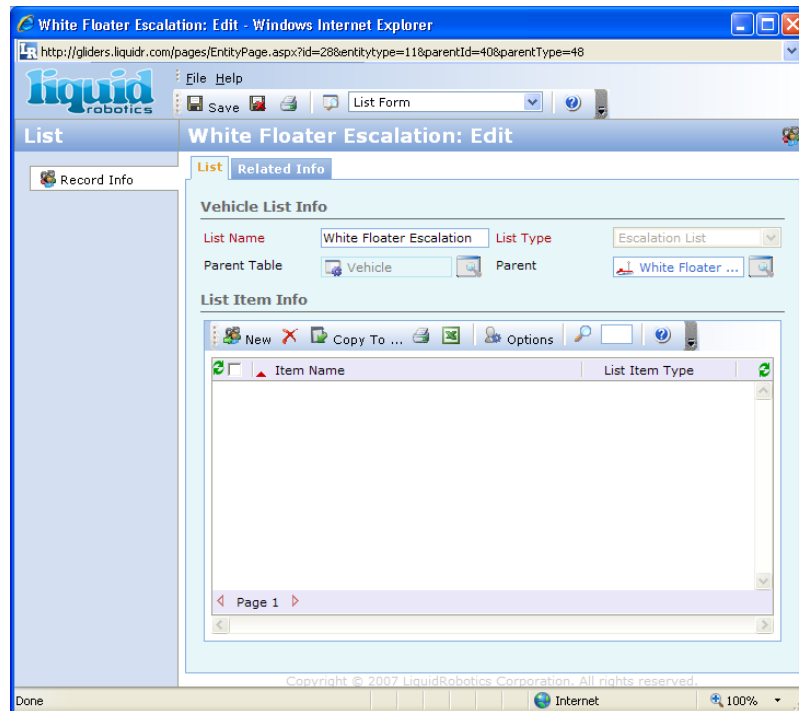

Figure 4-33: Escalation List Edit Dialog (Empty)
- 6) Now, double-click on the "White Floater Escalation" name. This will bring up the dialog (Figure 4-33) to enter new names in the list.